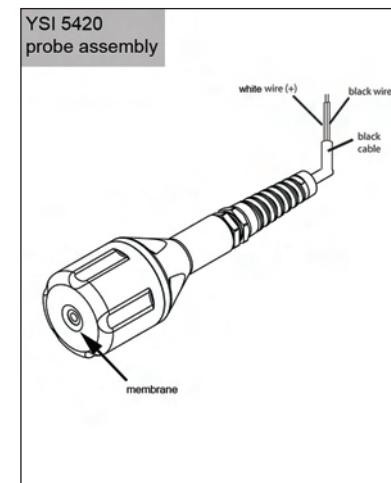

Figure 4.5
- Alternatively, you may choose to calibrate the galvanic sensor in air by exposing it to air and removing any water droplets from the membrane with a lint free cloth - figure 4.5, page 77. While this method is acceptable, it may introduce a small amount of error to the DO readings. For highest accuracy, calibrate in a 100% water-saturated air environment following the directions listed previously.